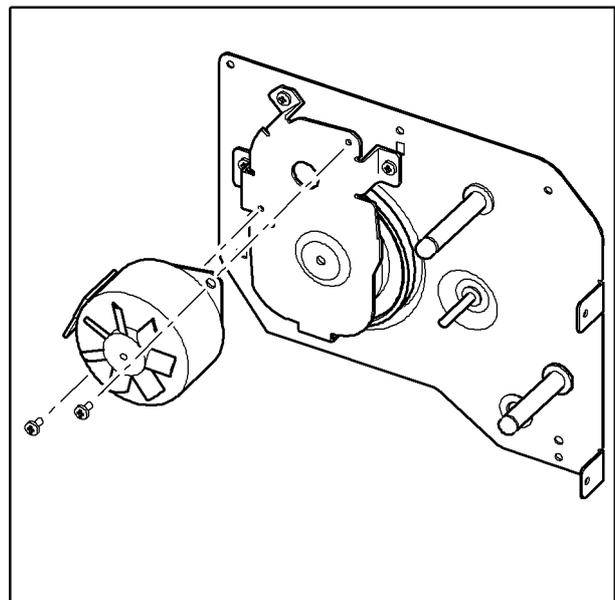

Figure 5
9. Remove the 2 screws, then the main motor, Figure 5.